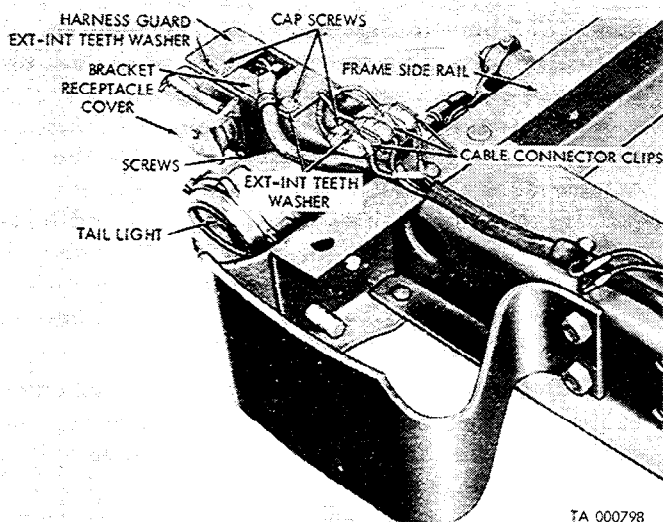

Figure 2-54. Left taillight and trailer coupling receptacle.
i. Remove Left Taillight and Bracket (Fig. 2-54).
(3) Remove the three cable connectors from the cable connector clips, separate the connector shells, and disconnect the cables. The clips may be on the bracket or inside the guard.
(4) Remove the two screws and lockwashers that secure the taillight to the bracket, and remove the taillight with attached cables.
(5) If the vehicle is equipped with a trailer coupling, unscrew the grommet nut from the coupling receptacle, remove the four nuts and lockwasher bolts that secure the receptacle and receptacle cover to the frame, and pull the cover toward the rear to remove the cables from the opening in the bracket.
(6) Remove the two nuts, lockwashers, and bolts that secure the bracket and rear bumper to the frame side rail, and remove the bracket.
j. Install Left Taillight and Bracket (Fig. 2-54).
(1) Position the bracket on the frame side rail and install the two bolts, lockwashers, and nuts. Tighten the nuts.
(2) If the vehicle is equipped with a trailer coupling receptacle, position the receptacle and cover on the bracket and install the four lockwasher bolts and four nuts. Tighten the bolts. Screw the grommet nut to the receptacle.
(3) Thread the taillight cables through the opening in the bracket, position the taillight on the bracket, and install the two lockwashers and cap screws. Tighten the screws.
(4) Connect the three cable terminals to their respective cables, connect the shells, and engage the connectors in the clips.
(5) Position the harness guard on the bracket, aligning the screw holes. Place the taillight ground cable terminal over the inner screw hole and the trailer coupling cable clip over the center screw hole (on vehicles so equipped). Install lockwasher and cap screws (three for vehicles equipped with a trailer coupling, two for vehicles not so equipped).
(1) Position the circuit breaker on the cowl ventilator brace (fig. 2-51) and install the two screws. For the circuit breaker on the instrument cluster (fig. 2-54), position the circuit breaker on the instrument cluster panel, and install the two bolts, lockwashers, and nuts.